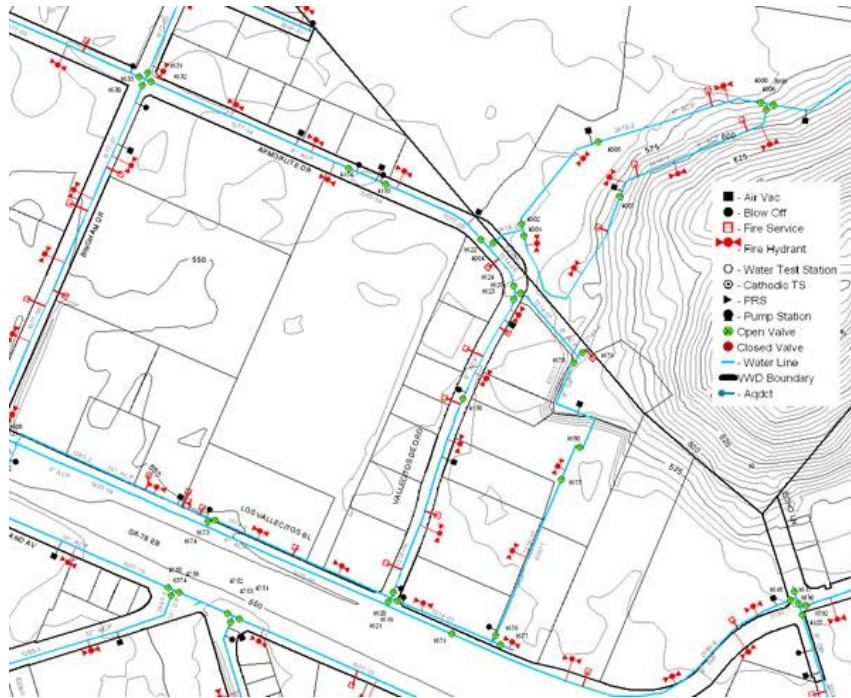

Figure 5: Example of a geographic information system (GIS) with water pipes in blue and fire hydrants in red.
- Maps or geographic information system (GIS) of distribution system including pipes, storage tanks, pump stations, valves, flow meters (see Figure 5),